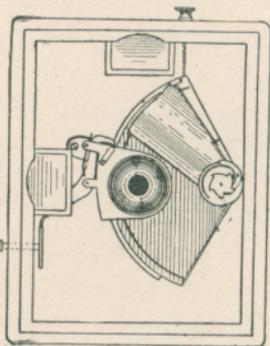

FIG. 2—SHUTTER SET FOR TIME EXPOSURES.
2. Then pull the cord taut and press the button while the shutter is being raised *only* $\frac{1}{4}$ inch, then *remove finger from button*, raise the shutter by the cord until it catches in the first notch, this will bring it into the position shown in figure 2 with the
The shutter is kept in the position shown in Fig. 2 all the time when used for time exposures. The opening and closing of the lens being effected by the plug.
The shutter is now set in the position shown in Fig. 2.